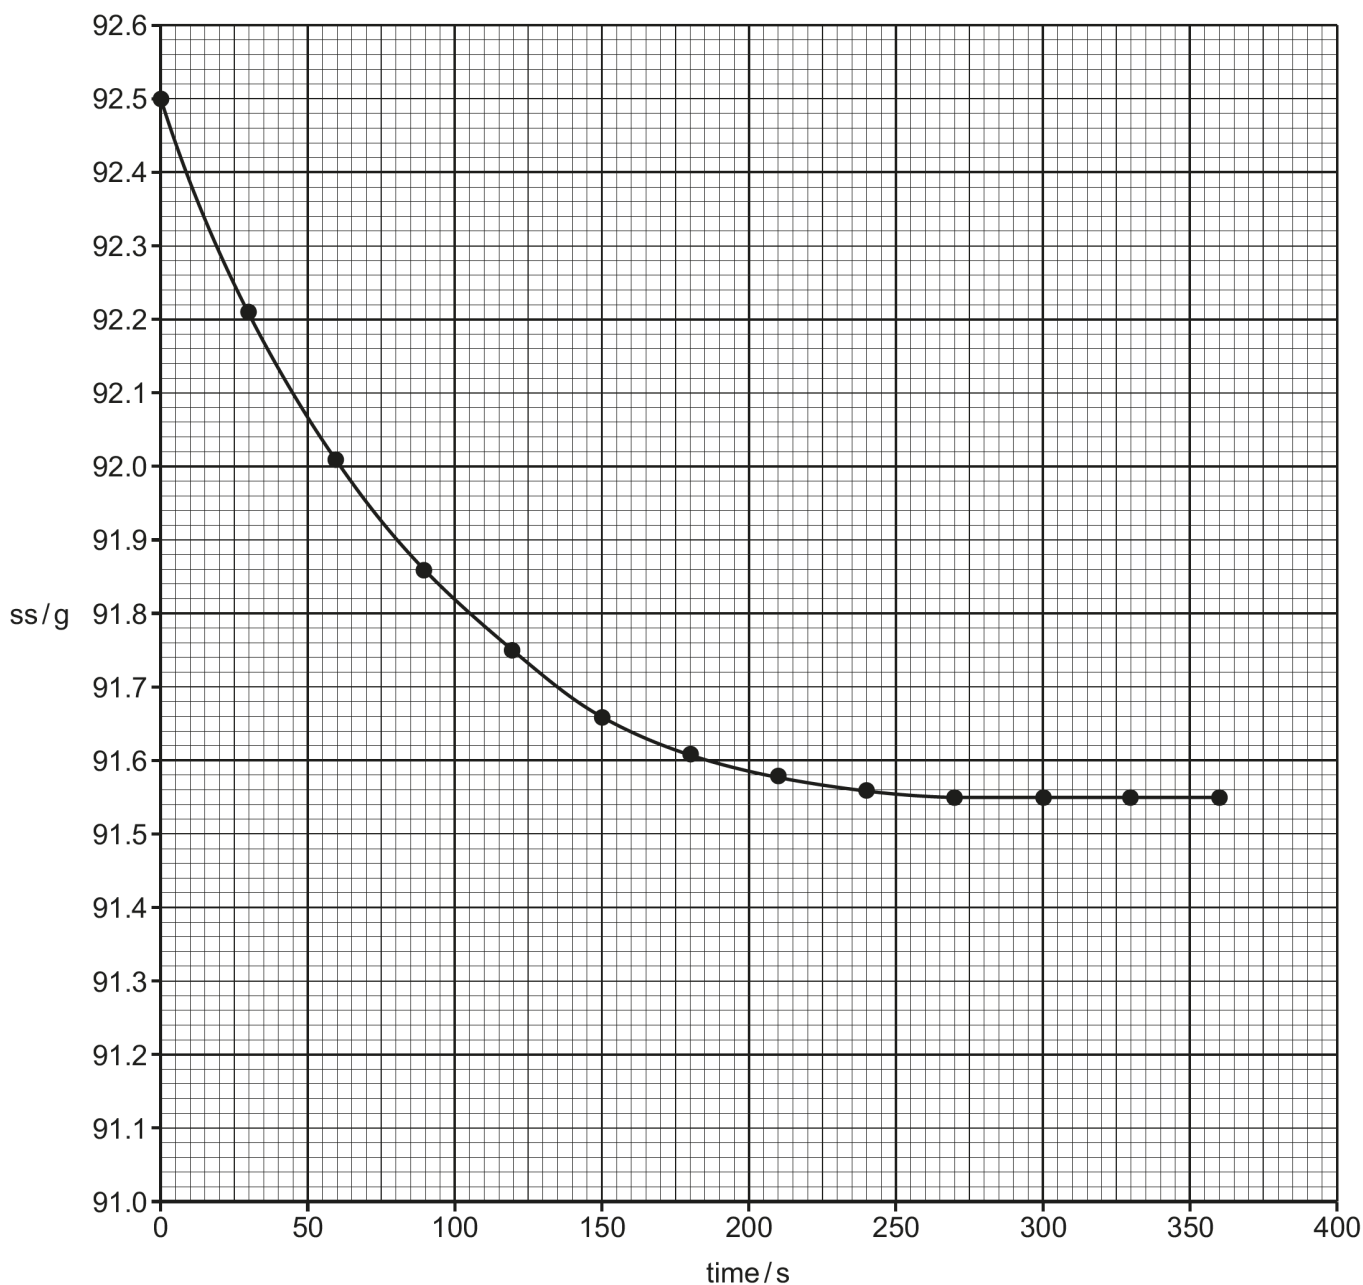

Fig. 3.1
The student plots a graph of mass against time, shown in **Fig. 3.1** below.
- (ii) Using the graph in **Fig. 3.1**, find the rate of reaction, in g s^{-1} , at 50 seconds.
On **Fig. 3.1**, sketch the curve the student would obtain.